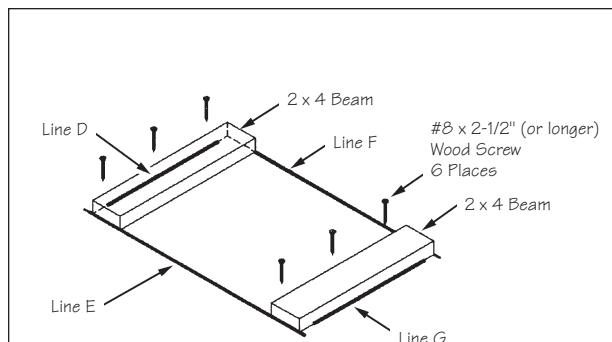

Figure 3
- 3** Position each 2 x 4 board so that the short ends of the 2 x 4 boards are aligned with lines E and F and the long edges are aligned with lines G and H. Secure the 2 x 4 boards to the floor with three #8 x 2-1/2" wood screws. See Figure 3.